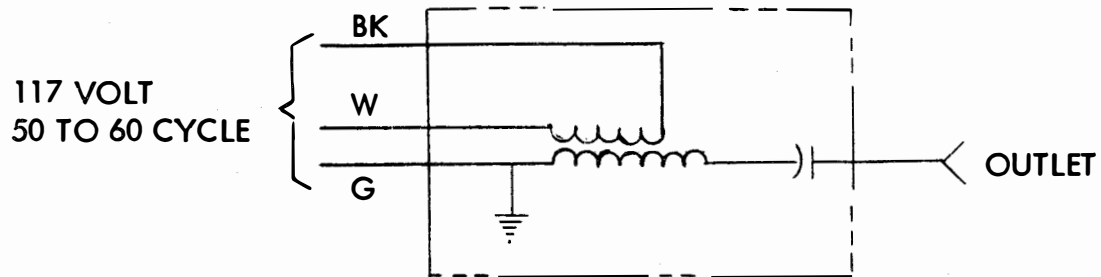

FIGURE 1. SCHEMATIC WIRING DIAGRAM OF 178389 POWER UNIT.
g. For schematic diagrams of the 178389 power unit and 178390 inductor bar, refer to Figures 1 and 2 respectively.